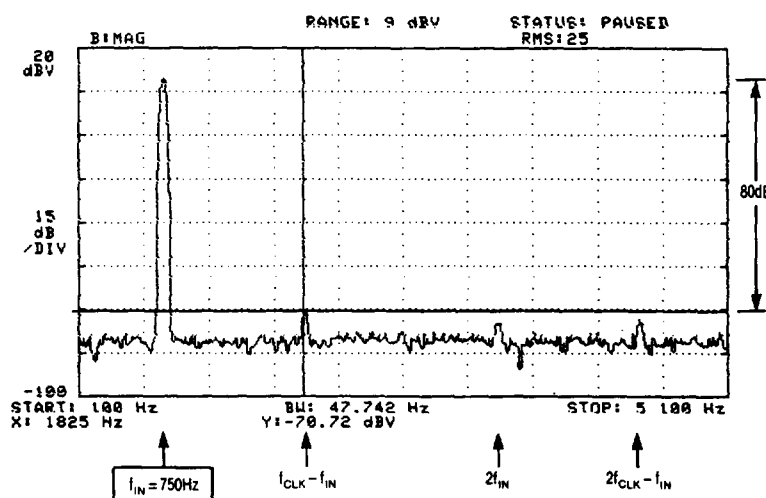

Figure 5A. Output Voltage Spectrum of 1/2 LTC1051 Operating as an Inverting Amplifier with Gain of 10, and Amplifying a 750Hz, 800mV Input AC Signal.
2. If we arbitrarily accept that "aliasing" occurs when output alias signals reach an amplitude of 0.01% or more of the output signal, then: The approximate minimum frequency of an AC input signal which will cause aliasing is equal to the internal clock frequency multiplied by the square root of the op amp feedback factor. For instance, with closed loop gain of -10 , the feedback factor is $1/11$, and if $f_{CLK} = 2.6kHz$, alias signals can be detected when the frequency of the input signal exceeds 750Hz to 800Hz, Figure 5A.